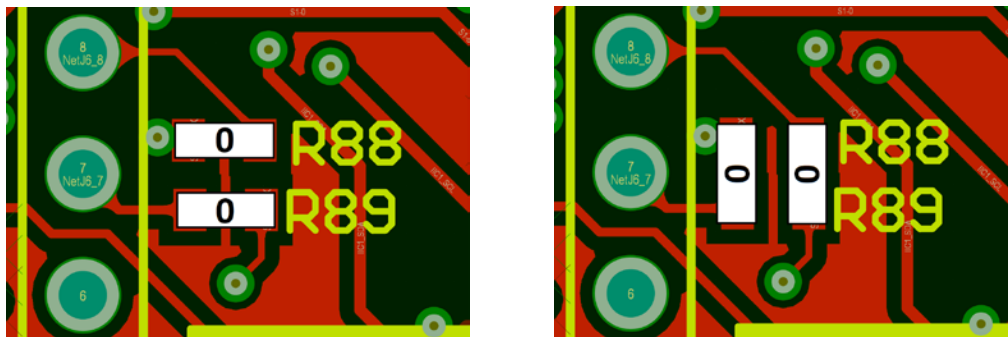

Figure 16: Host (left, default) and Shield (right) UART configuration.
- On the connector J6, SCI0 is connected to provide a UART port. In order to allow the use of the board as a shield, RX and TX can be swapped as showed in Figure 16.